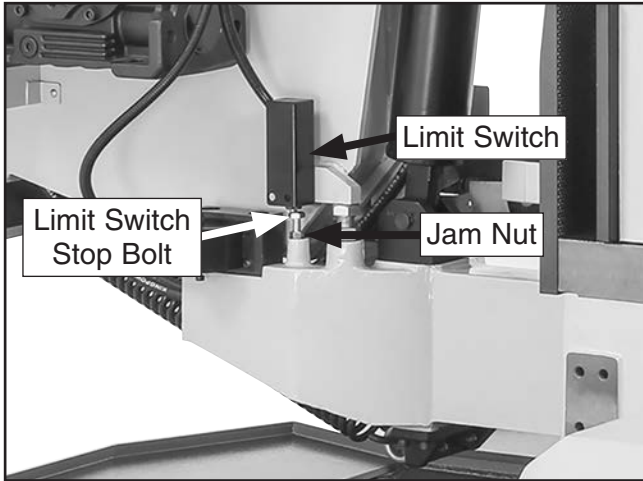

Figure 114. Limit switch stop bolt adjustment components.
- Loosen stop bolt jam nut, then adjust limit switch stop bolt until head of stop bolt contacts limit switch (see **Figure 114**).